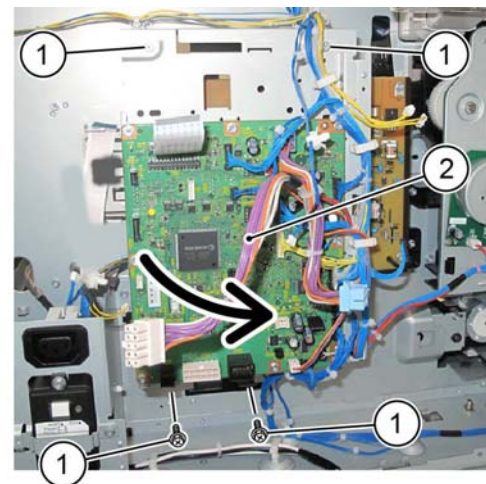

Figure 3 Preparation
6. Prepare to remove the HVPS, Figure 3:
- a. Remove four screws (1).